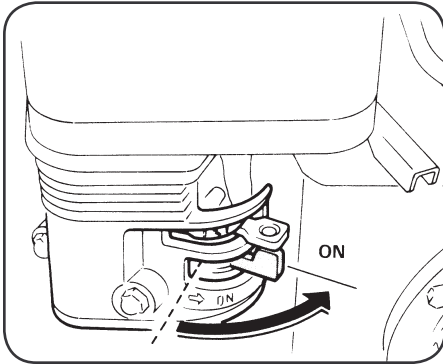

figure 5
1. Turn the Fuel Valve to the ON position. (Fig. 5)